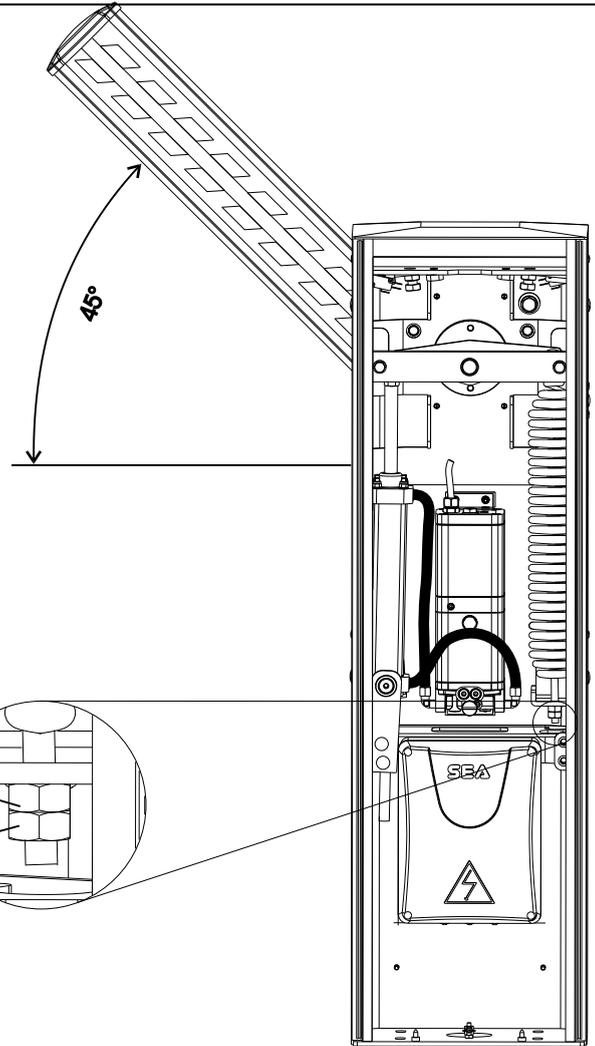

Fig. 12
- Release the beam with manual release, so that it is free to be opened and closed manually (Fig.12).
- Loosen or tighten the spring stretching nut until the spring counterbalances the weight of the 45° beam (Fig. 12). The best balancing position is obtained when the beam reaches the position shown in Fig. 12.